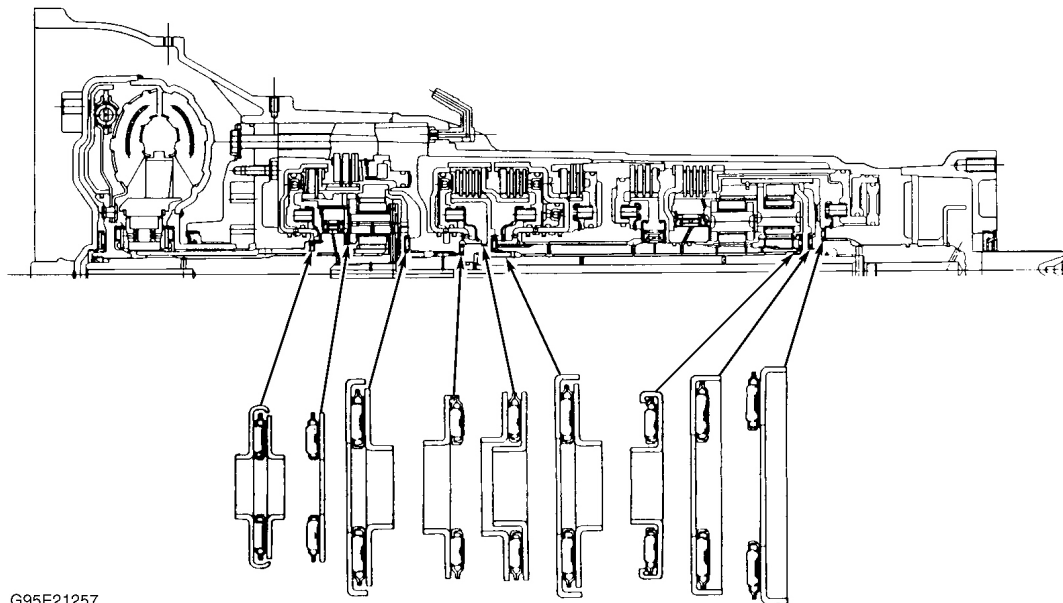
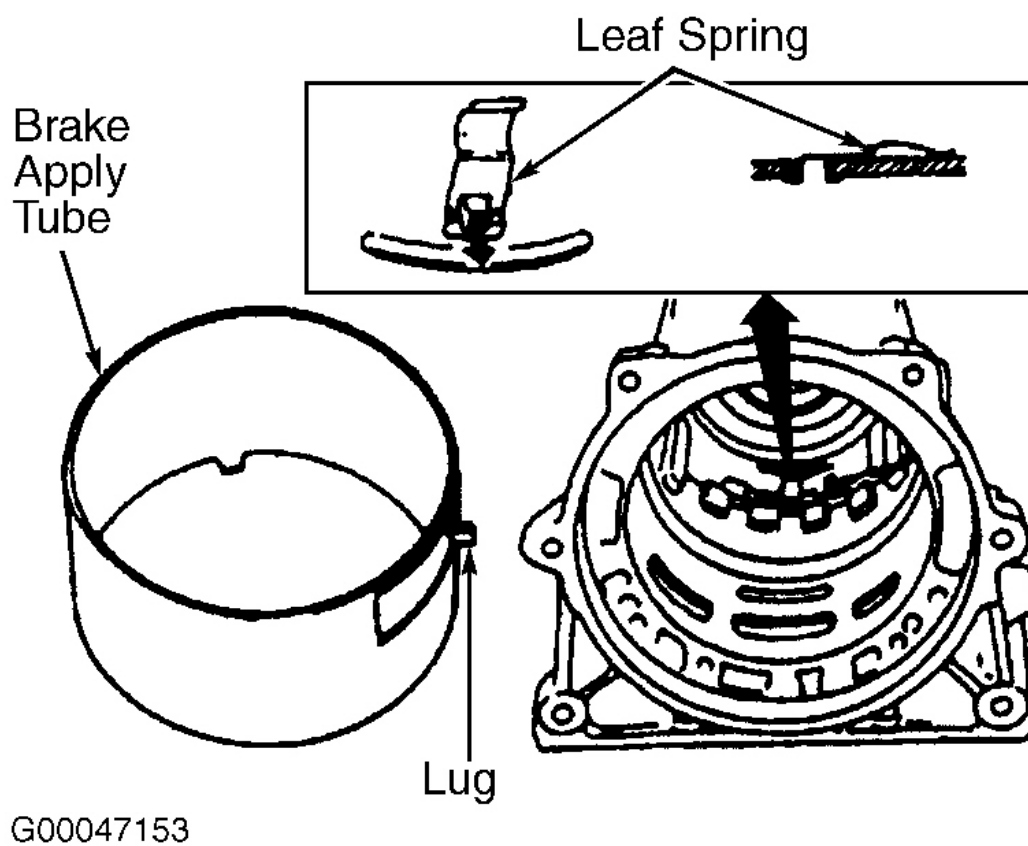

Fig. 48: Identifying Bearing Race & Thrust Bearing Locations
Fig. 49: Installing Brake Apply Tube & Leaf Spring
NOTE: For bearing race and thrust bearing locations. See **Fig. 48** .
2. Install output shaft bearing and race. See **Fig. 48** . Install brake apply tube into transmission case, aligning locking tab with cutout on valve body side of transmission case. Ensure 4 lugs on underside of brake apply tube fit inside of low and reverse brake piston and leaf spring is properly installed. See **Fig. 49** .